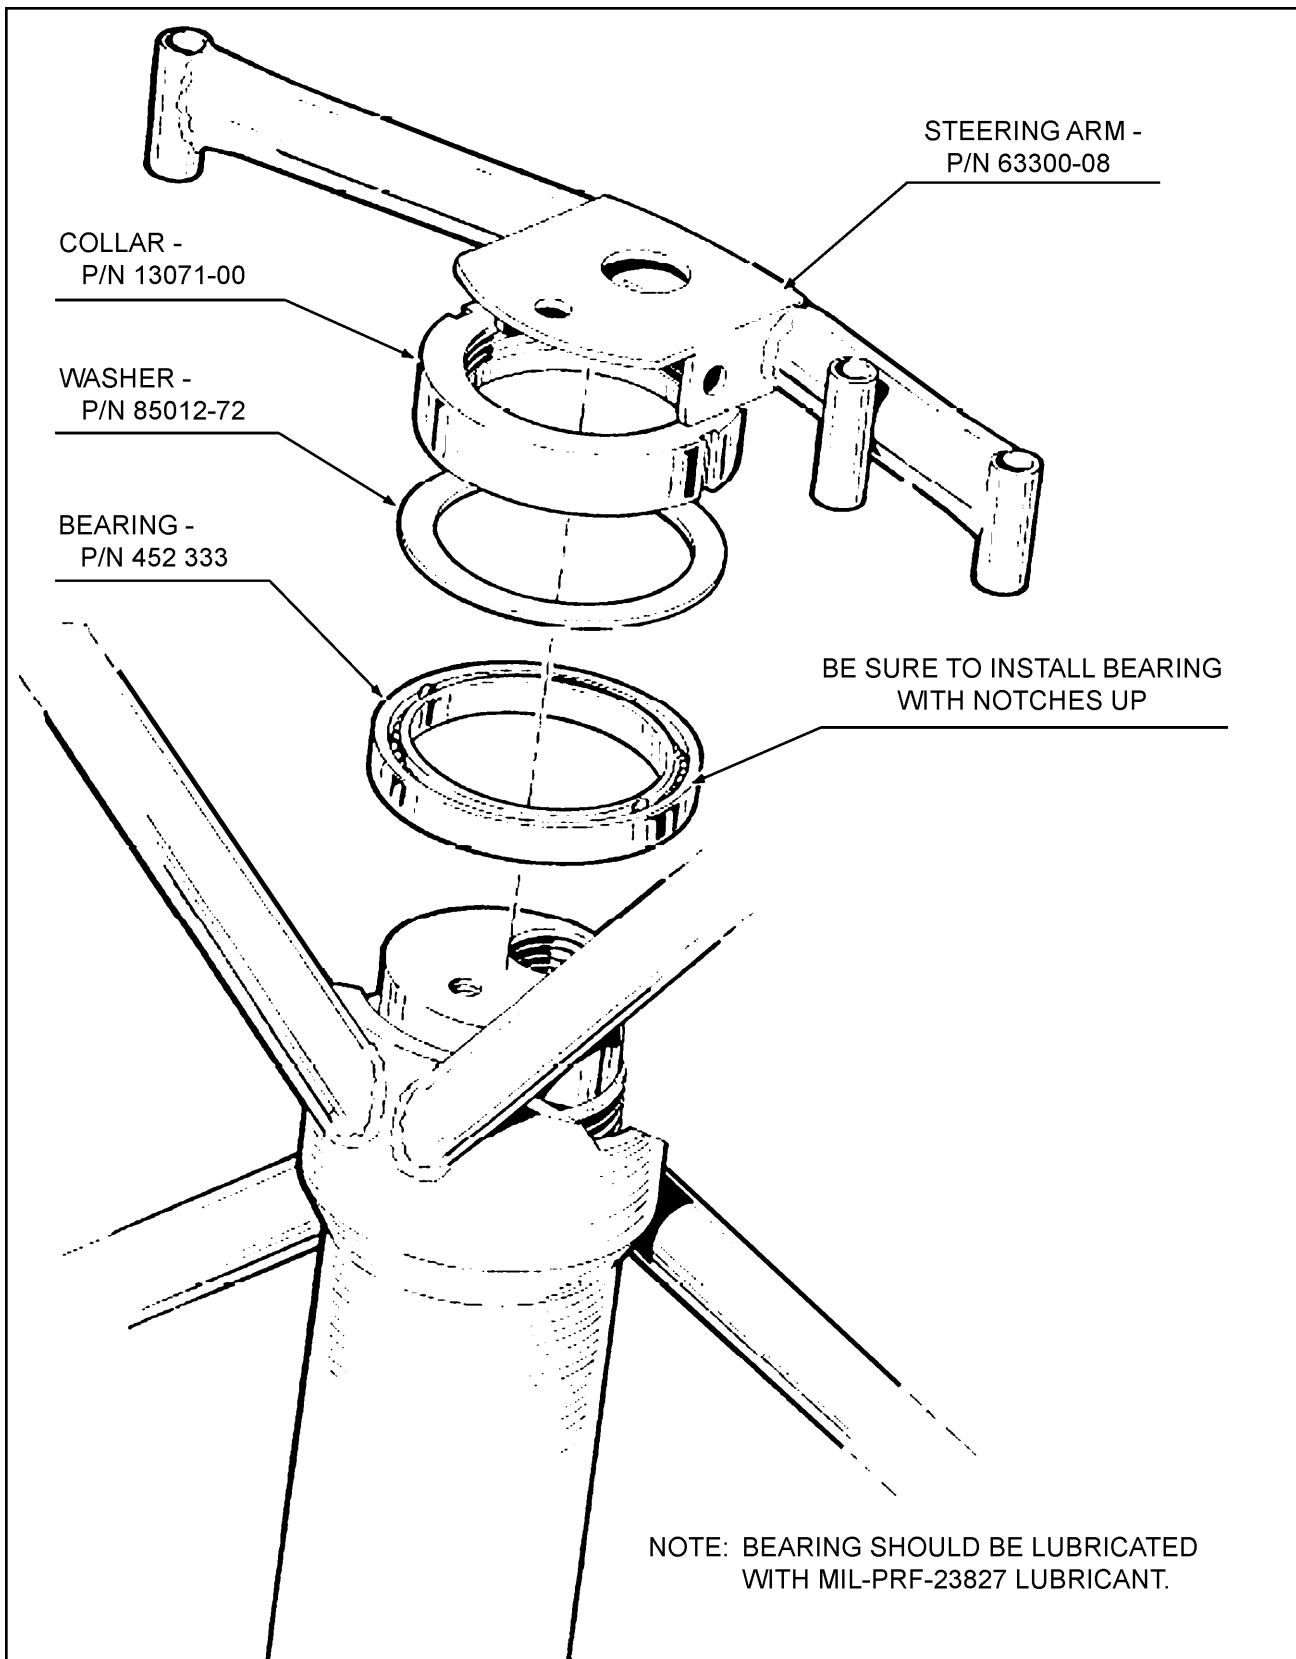

Figure 3-24. Upper Nose Gear Oleo Bearing Inspection
### (23) UPPER NOSE GEAR OLEO BEARING INSPECTION. (Refer to Figure 3-24.)